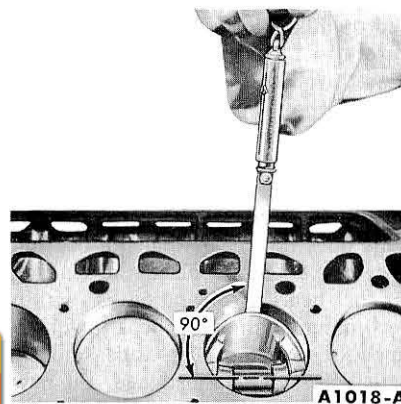

FIG. 41—Checking Piston Fit
7. Hold the piston and slowly pull the scale in a straight line with the ribbon, noting the pull required to remove the feeler ribbon (Fig. 41).